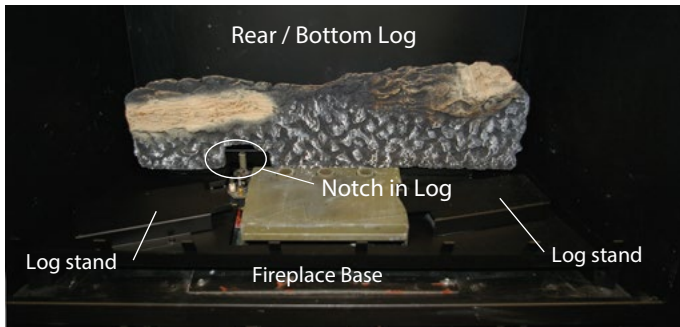
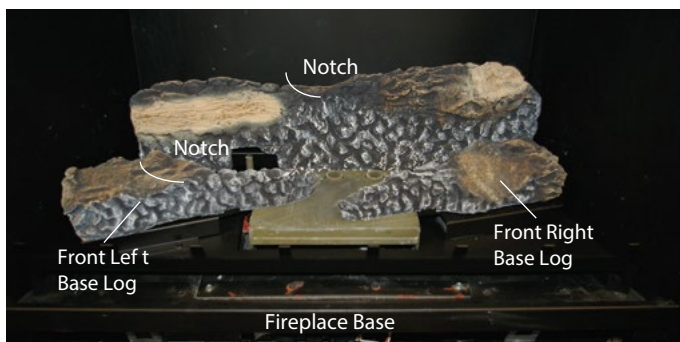

Figure 8b. Bottom/Rear log placement.
Figure 8c. Front base logs placement.
**Step 2.** Install Bottom Rear log as shown in **Figure 8b**.
**Step 3.** Install Both front base logs, (**Figure 8c**) on the log stands provided. See **Figure 8b**.